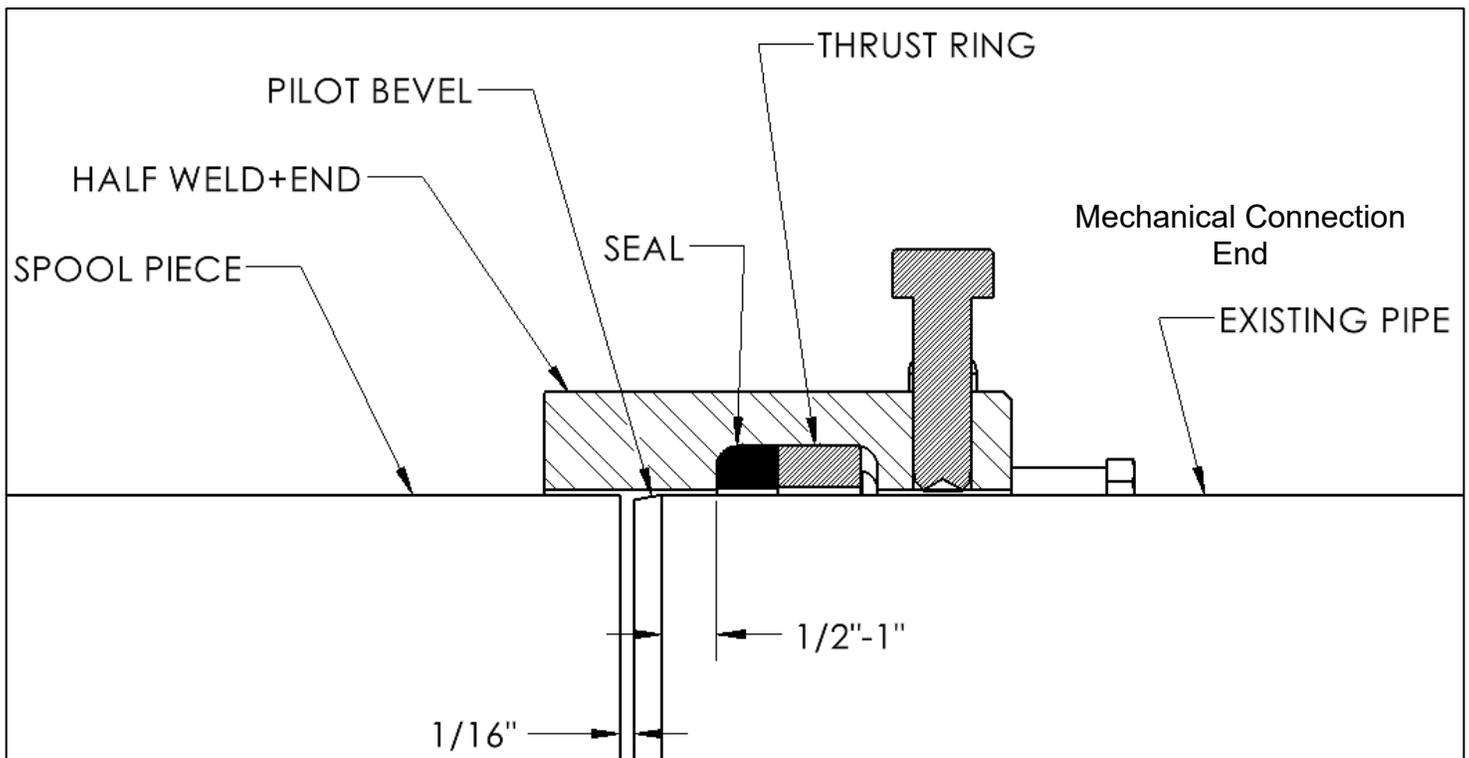

Figure 2
3. The location of the spool piece attachment to the Half Weld+End must be carefully welded to ensure that the seal lands on smooth pipe and there is adequate room for the pipe that will be inserted into the mechanical end. The seal should have a minimum of  $\frac{1}{2}$ " (12.7mm) – 1" (25.4mm) from the start of the pilot bevel as shown in Figure 2.
4. It is recommended to remove the elastomeric seal to avoid damaging the seal while welding the Half Weld+End to the spool piece. When replacing the seal after welding, it must be positioned on the inside of the metal thrust ring. Also note the placement of the radius on the seal as shown in Figure 2. DO NOT place the seal back in until the fitting has cooled down to under 100° F.
1. The existing pipe end should be cut reasonably square with any sharp ends or burrs removed. A generous taper or pilot bevel is recommended for misaligned or out-of-round pipe to allow for easy assembly as shown in Figure 2.
- Slide the Half Weld+End with the pipe to which it is welded over the end of the pipe to which it will be mechanically joined until it bottoms out on the welded pipe. Then back the Half Weld+End away from the welded pipe approximately 1/16 inch as shown in Figure 2. Note that the end of the pipe or the start of the pilot bevel on the mechanical end must be beyond the seal groove by 1/2 inch to 1 inch as shown in Figure 2.